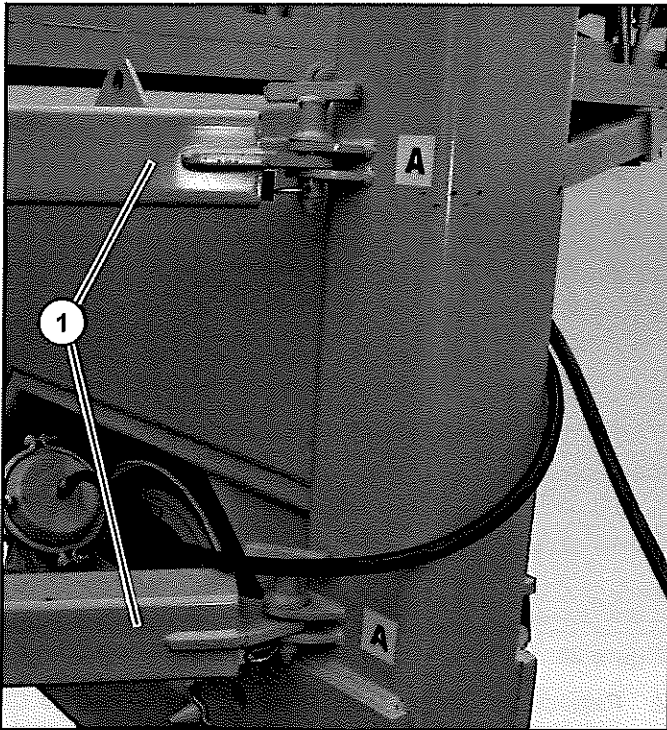

Figure 21
8. Pin two of the four "A" bars (Item 1) (Figure 21) into their operating positions.